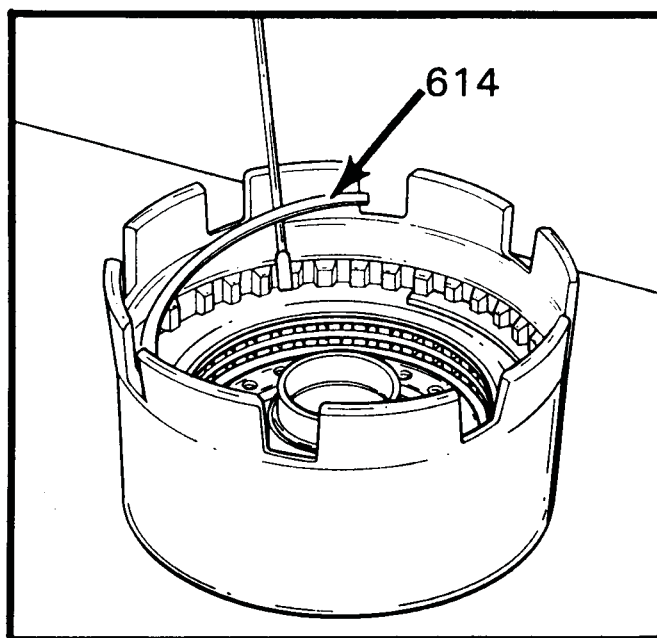

Figure 156
16. Install the backing plate snap ring as shown in Figure 156, using screwdriver.